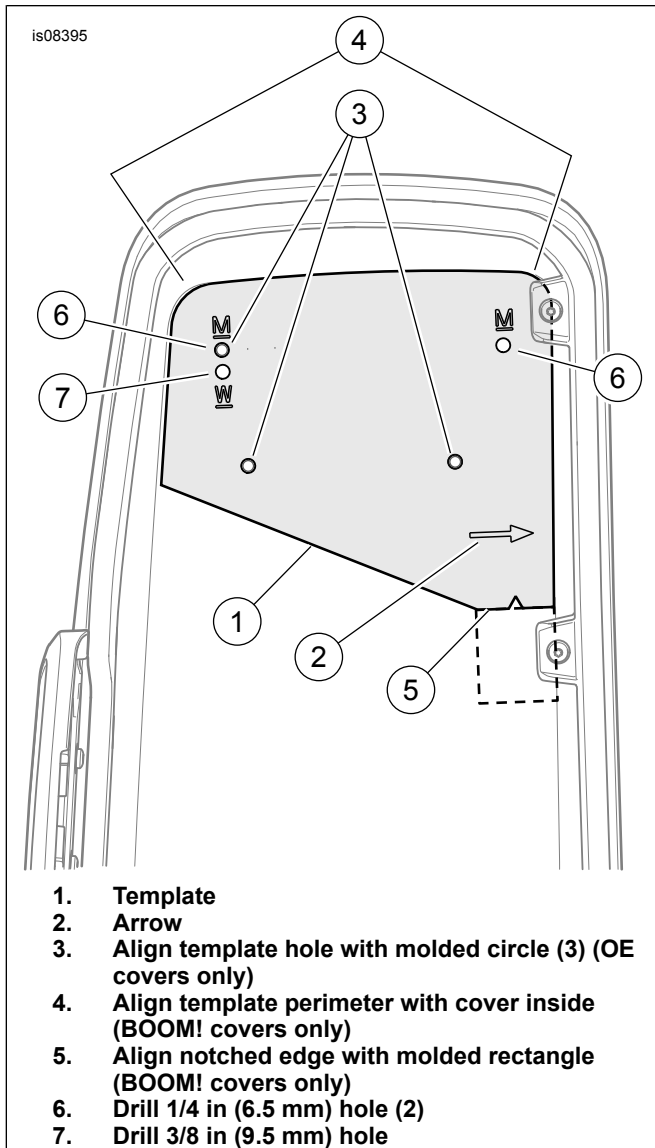

Figure 1. Drill Holes in Saddlebag Cover (Left Shown)
The template is used for both saddlebag covers. See Figure 1 for placement in left cover. Flip the template over for use in right cover.
4. **Models with original equipment (OE) saddlebag covers:** Models with BOOM! speaker saddlebag covers:
- a. See Figure 1. Orient the template (1) on the inside of the saddlebag cover, with the arrow (2) pointing toward the latch side of the cover as shown.
- b. Position the template by aligning the three template holes (3) with the corresponding circles molded into the cover.
- b. Position the template by aligning the perimeter (4) with the interior shape of the cover. Align the notched edge (5) with the rearmost edge of the rectangular outline molded into the cover.
8. From **outside**, enlarge the two spoiler base mounting screw holes (6) to 6.5 mm (1/4 in) diameter.
9. Enlarge the wiring hole (7) to 9.5 mm (3/8 in) diameter.